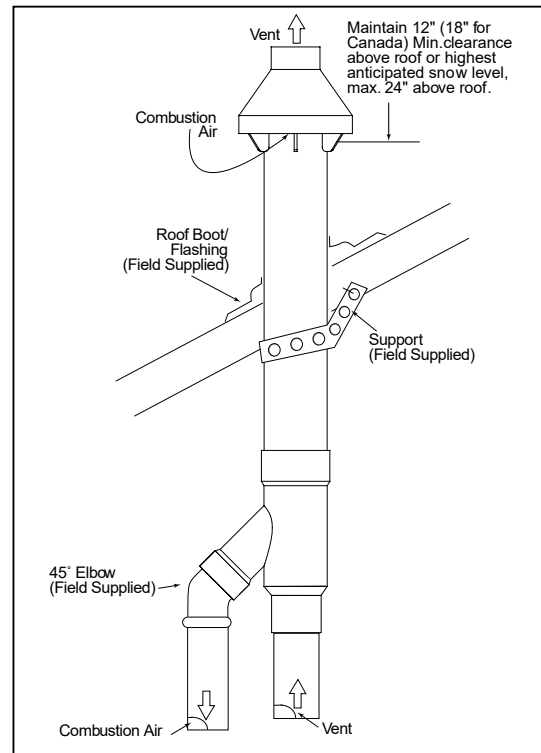

Fig.7-13 Roof Installation
4. Install cemented Y concentric fitting and pipe assembly through structure's hole and field supplied roof boot/ flashing. See Fig.7-13).
IMPORTANT: Make sure the termination height is above the roof surface or anticipated snow level (12 inches in U.S.A. or 18 inches in Canada). If the assembly is too short to meet the height requirement, the 2 pipes supplied in the kit may be replaced by using the same diameter, field supplied SDR-26 PVC (D2241) pipe. Do not expand dimension "D" more than 60 inches. See Fig.7-13.